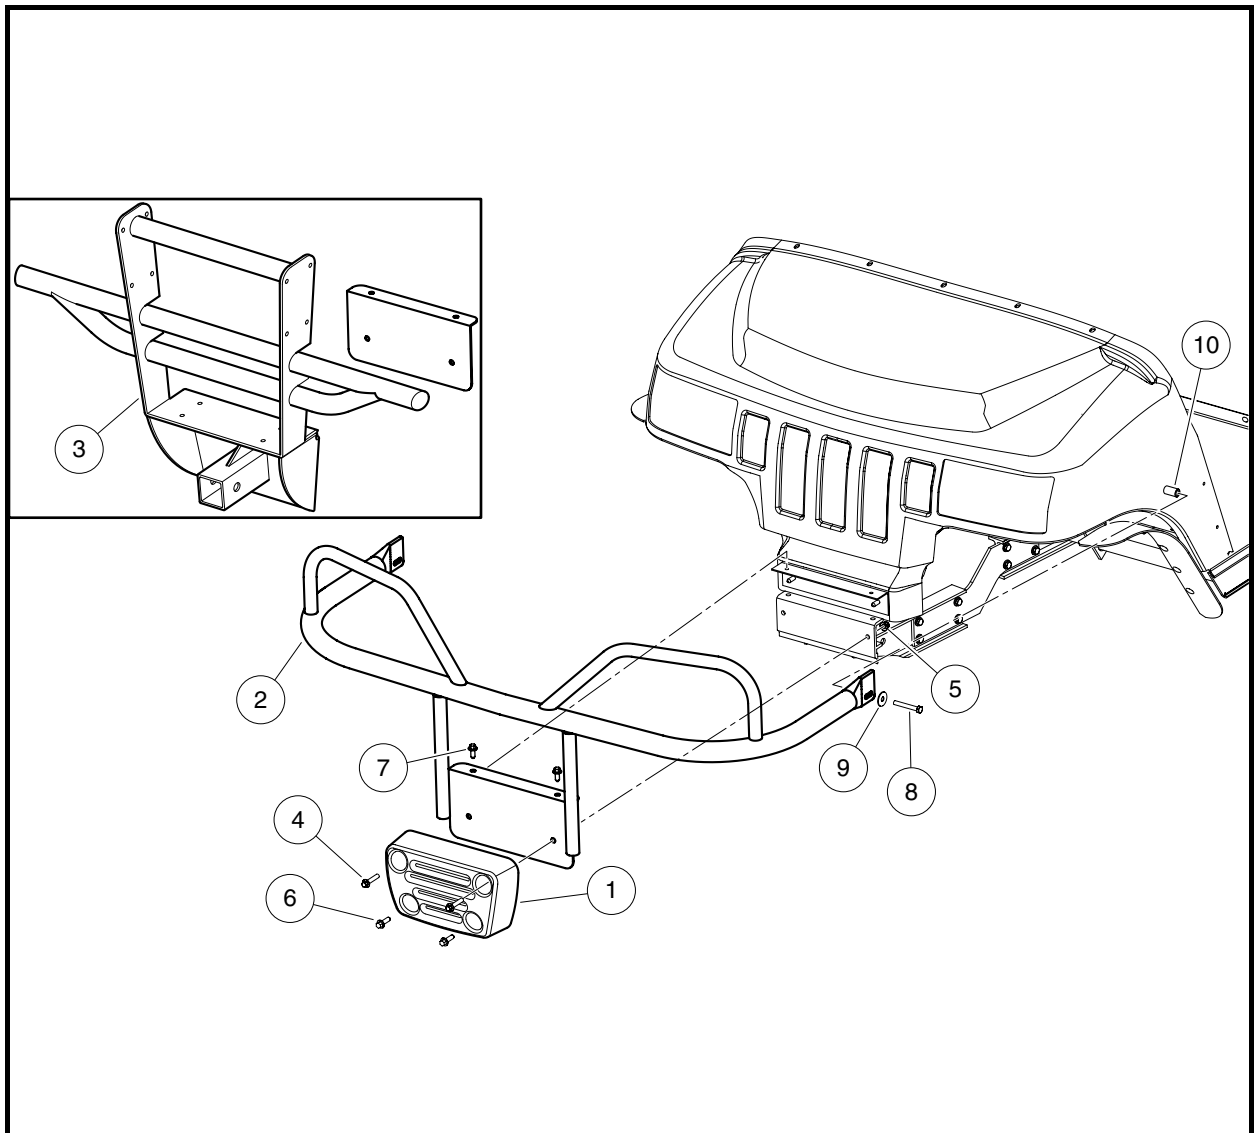

Figure 4-4 Standard Bumper and Brush Guard – 850 (Heavy Duty Shown in Inset)
1. Remove bolts (4) and lock nuts (5) (Figure 4-4, Page 4-6).
2. Remove screws (6) and pull the standard bumper (1) from vehicle. **See following WARNING.**
1. Position the standard brush guard (2) on vehicle and loosely install spacers (10), washers (9), bolts (8) and screws (7) (**Figure 4-4, Page 4-6**). **See preceding WARNING.**
2. Position the standard bumper (1) against body and front frame and loosely install top bolts (4) and lock nuts (5).
3. Install bottom screws (6) and tighten to 14 ft-lb (19 N·m).
4. Tighten lock nuts (5) to 17.5 ft-lb (24 N·m).
1. Remove bolts (4) and lock nuts (5) (**Figure 4-4, Page 4-6**).
2. Remove screws (6) and pull the heavy duty bumper/brush guard (3) from vehicle. **See following WARNING.**
1. Position the heavy duty bumper/brush guard (3) against body and front frame and loosely install top bolts (4) and lock nuts (5) (**Figure 4-4, Page 4-6**). **See preceding WARNING.**
2. Install bottom screws (6) and tighten to 14 ft-lb (19 N·m).
3. Tighten lock nuts (5) to 17.5 ft-lb (24 N·m).